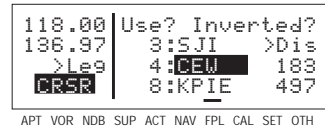

Figure 4-113
- Move the cursor over the waypoint you wish to delete (figure 4-113).